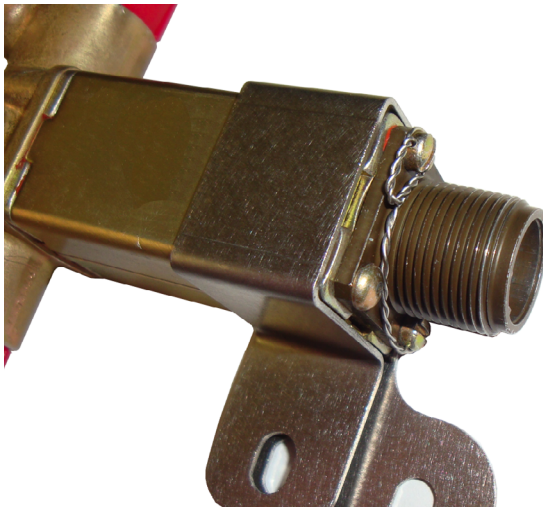

Figure B-7a - Correct Clamp Alignment
- (2) Confirm that the new clamp P/N 81029 remains on the square portion of the solenoid valve with the holes aligned when valve is positioned with fuel port fittings and line connections in alignment. If not, continue to instruction 11(b). Refer to Figure B-7a & B-7b.
- (3) Place a new washer P/N AN960-10L on a new screw P/N MS35266-66 and insert the screw through the clamp **security** hole.
- (4) Install spacer P/N 81150 on the screw P/N MS35266-66 and insert the screw through the base plate bracket hole.
- (5) Place a new Washer P/N AN960-10L and a new Nut P/N MS21044N3 on the screw snug but do not tighten at this time.
- (6) Discard additional new hardware for this step only.
- (4) Confirm that the new clamp P/N 81029 remains on the square portion of the solenoid valve with the holes aligned when valve is positioned with fuel port fittings and line connections in alignment. Refer to Figure B-7a & B-7b.
- (5) Place a new washer P/N AN960-10L on a new screw P/N MS35266-66 and insert the screw through the clamp **extension** hole.
- (6) Place a new spacer P/N 81150 on the screw P/N MS35266-66 and insert the screw through the base bracket hole.